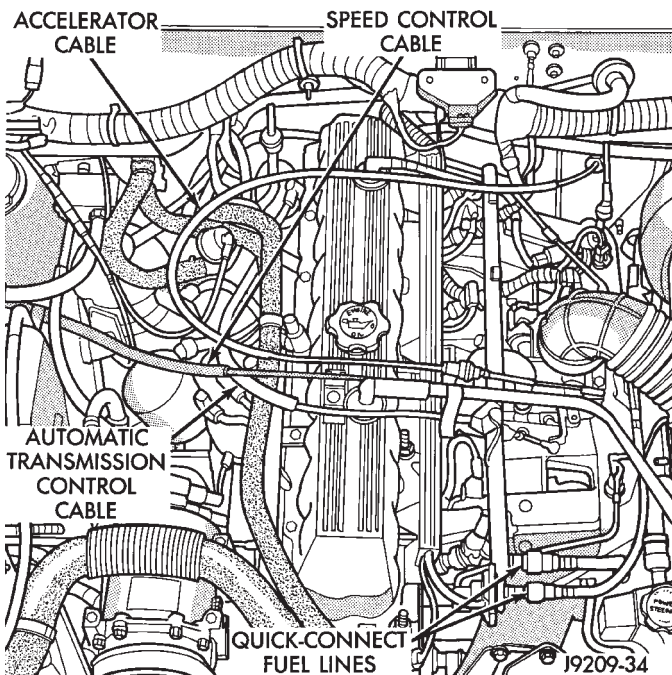

Fig. 30 Accelerator Cable, Vehicle Speed Control Cable, Automatic Transmission Control Cable & Quick-Connect Fuel Lines
- (14) Disconnect the accelerator cable, transmission line pressure cable and speed control cable (if equipped) from the throttle body (Fig. 30).
- (15) Remove cables from the bracket and secure out of the way.
- (16) Disconnect the body ground at the engine.
- (17) Disconnect the following connectors and secure their harness out of the way.
- Six (6) fuel injector connectors